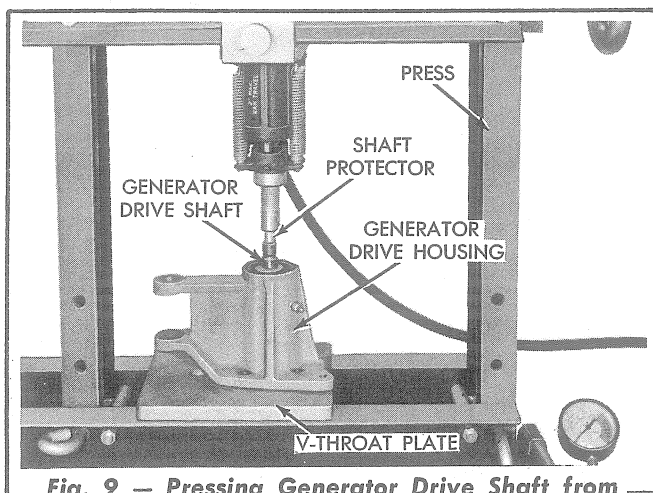

Fig. 9 — Pressing Generator Drive Shaft from Generator Drive Housing (Tractors Prior to Serial No. 4001 Shown — Tractors Serial No. 4001 and Above Similar)
- c. Pressing on the pulley end of the shaft as shown in Fig. 9, press the shaft from the generator drive housing.